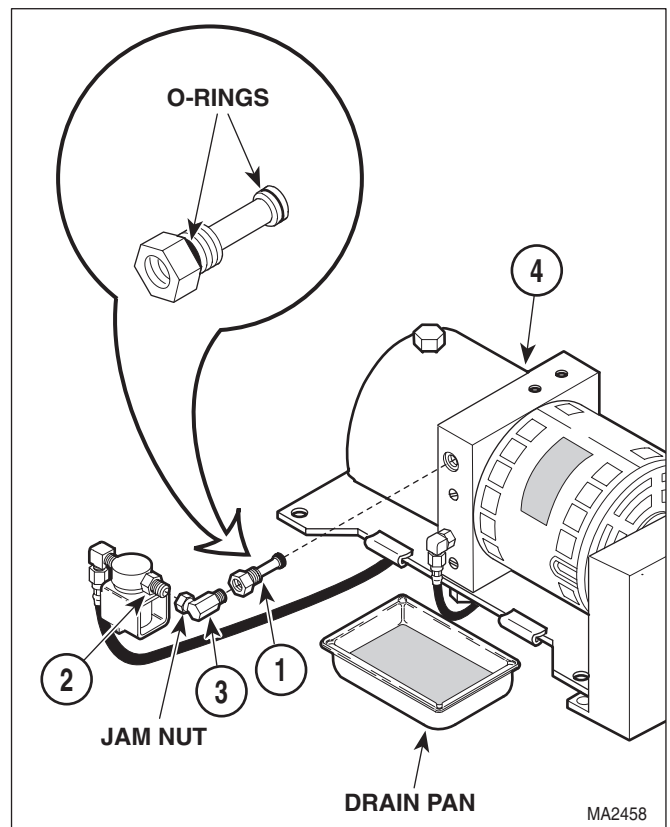

Figure 4-4.1 Down Functions Shuttle Valve Removal / Installation
- (3) Place rags or drain pan under down functions shuttle valve (1, Figure 4-4.1).
- (4) Using a wrench to hold male connector (2) stationary, loosen jam nut of elbow (3). Disconnect elbow from male connector.
- (5) Remove elbow (3) from down function shuttle valve (1).
- (6) Remove down functions shuttle valve (1) from motor pump (4).